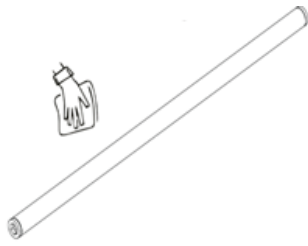

Figure5.2-8 Clean the installation interface
- ▶ Use clean wiping cloth to dip with alcohol (95% industrial alcohol), and clean the stator assembly. (refer to Figure5.2-8)